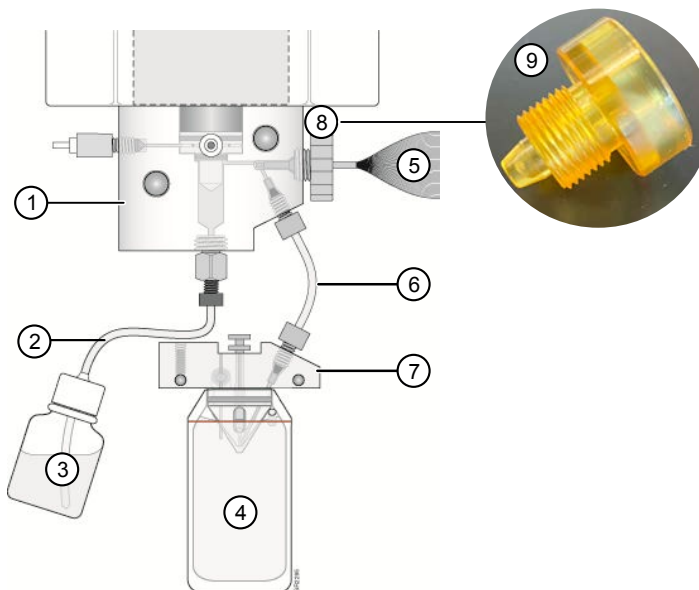

Figure 3 Polymer delivery pump (PDP)
- ① Polymer delivery pump (PDP). See Figure 3.
- ② Oven door (The detector cell and capillary array are inside this compartment.)
- ③ Stacker (automated plate handler)
- ④ Stacker door indicator light
- ⑤ Power button and status lights
- ⑥ Tray button
- ⑦ Buffer, water, and waste reservoirs